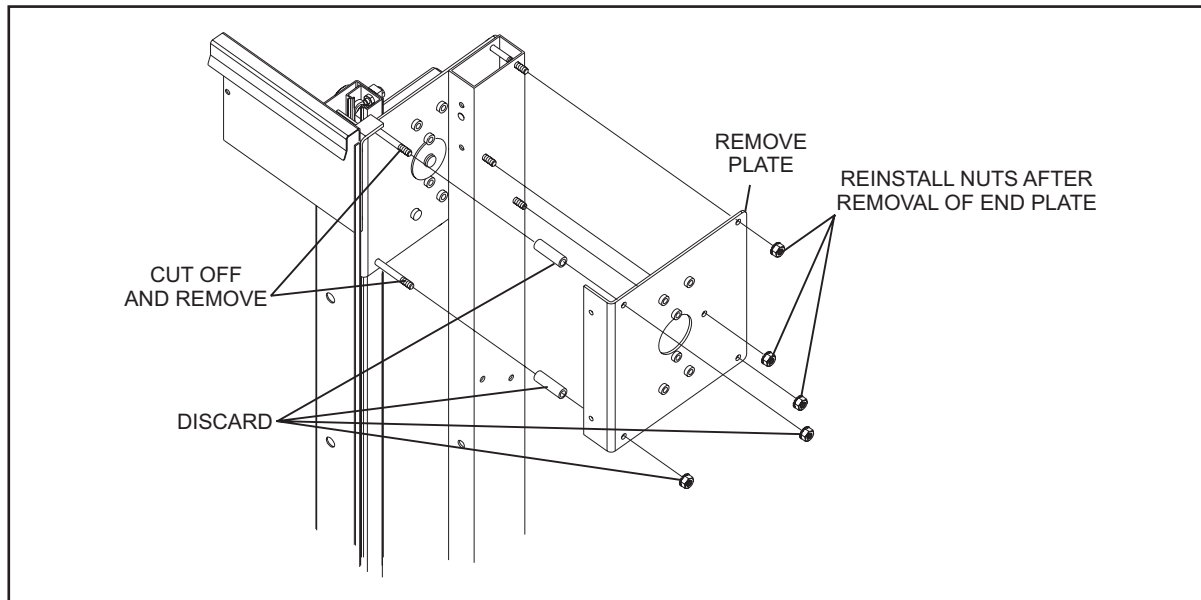

Figure 108
1. Remove lower graphic panel and retain for reinstallation. Refer to *Figure 108*.
2. Remove division capping and retain for reinstallation. Refer to *Figure 108*.
3. Remove five nuts from end plate and remove end plate. Refer to *Figure 108*.
4. Leave three screw through the vertical support tube and replace nuts, cut remaining two screws and discard. Refer to *Figure 108*.